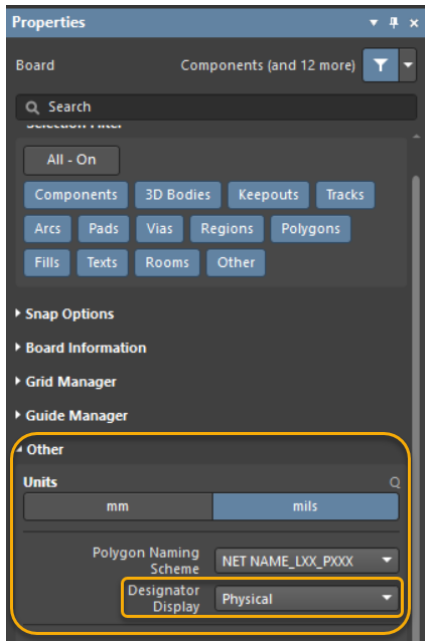

Figure 4. Select Physical Designator
13. Open the PCB document, *Mixer.PcbDoc*. Once opened, view the *Properties* panel and under the *Other* section, ensure the *Designator Display* option is set to **Physical**, as shown in Figure 4.